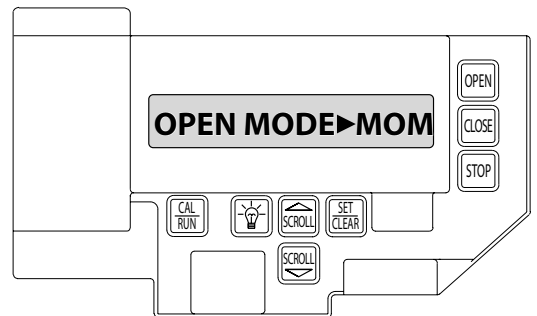

Fig. 12
2. Press SCROLL (up or down) until display reads "OPEN MODE>MOM" or "OPEN MODE>C-STP." Fig. 12